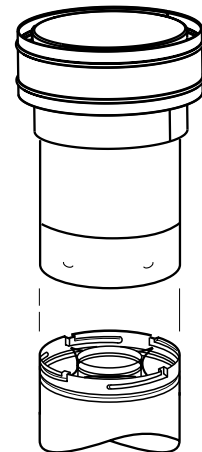

Figure 24
K. Install the vertical termination - The final step involves installation of the SV4.5CGV-1 Vertical Termination. Extend the vent sections to the height as shown in the "Vertical vent termination section" on **page 9**. The SV4.5CGV-1 Vertical Termination (*Figure 24*) installs in the exact same fashion as any other **Secure Vent** section. Align the termination over the end of the previously installed section, adjusting the radial alignment until the locking dimples of the termination are aligned with the inlets of the four incline channels of the last vent section. Push the termination down until it fully engages, then twist the termination clockwise running the dimples down and along the incline channels until they seat at the end of the channels.